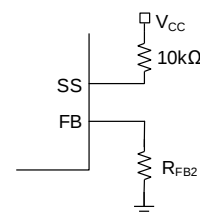

Figure 5: CC Mode
The MP9931 provides a constant current (CC) mode for battery charging. Pull the SS pin up to VCC via a 10k Ω resistor to enable CC mode. Under this condition, output under-voltage (UV) protection and LDO mode are disabled; in addition, connect FB to AGND via a resistor or divide FB from VCC to set FB below 0.8V. V_{OUT} finally charges up to $(V_{IN} \times \text{Max Duty Cycle})$ under this condition. Figure 5 shows the typical connection for SS and FB in CC mode.